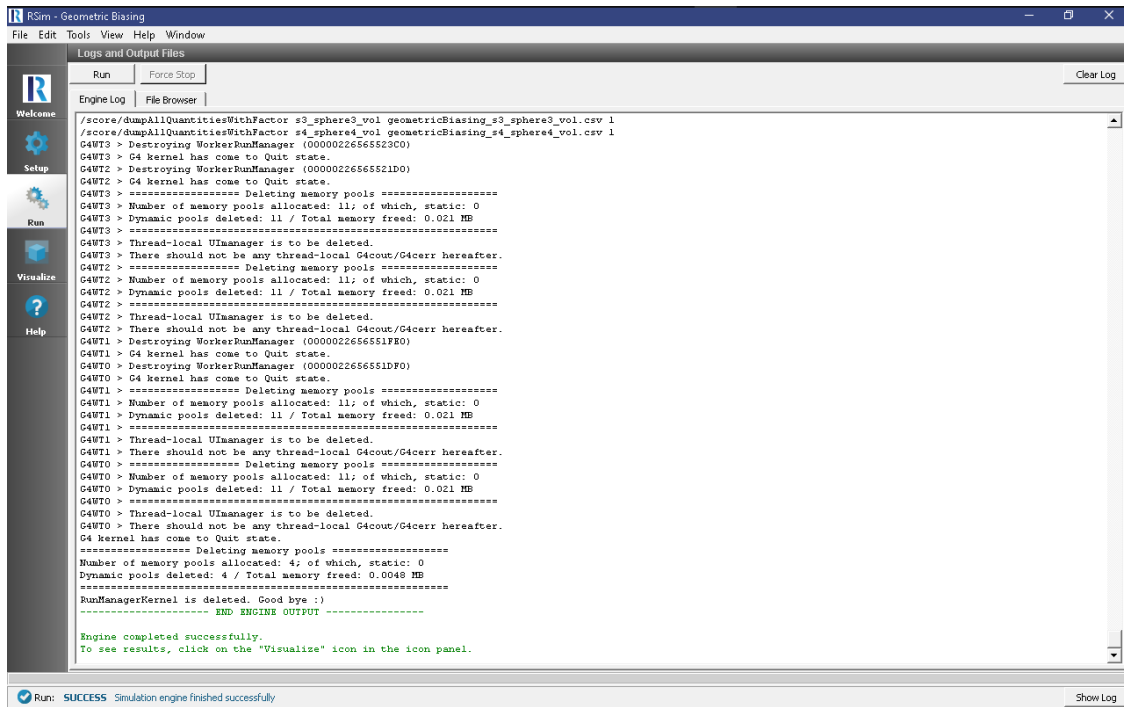

Fig. 2.11: The Run Window at the end of execution.
- To run the file, click on the *Run* button in the upper left corner of the *Logs and Output Files* pane. You will see the output of the run in the right pane. The run has completed when you see the output, “Engine completed successfully.” This is shown in Fig. 2.11.